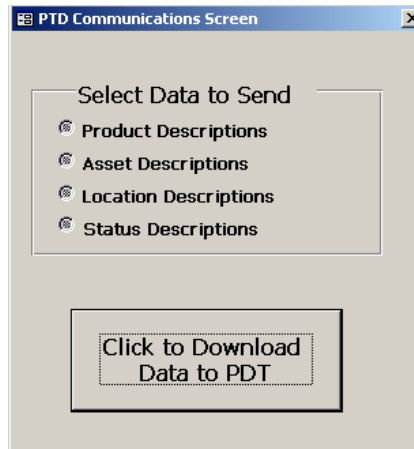

Figure 54
You can optionally send (download) product, asset, location and status descriptions to the PDT. This is accomplished from the ADVANCED SYSTEM ADMIN MENU (Figure 54). The 1st 20 characters of a record's description is displayed on the PDT, either when the DATA LOOKUP option is used, or when the record is scanned during data collection via main menu items 1,2,3 or 4 (Product In, Product Move, Cycle Count, Assets).